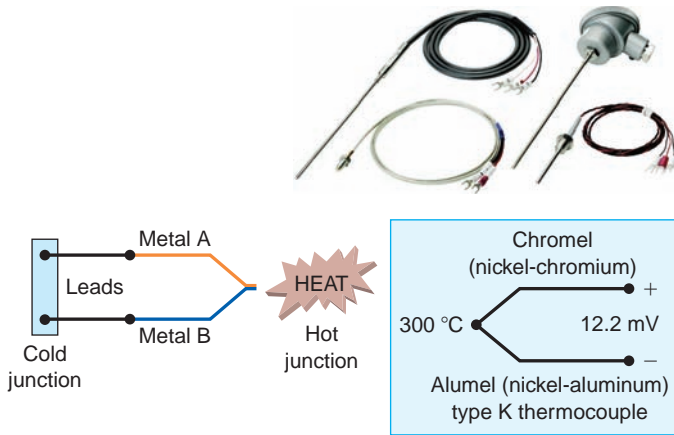

Figure 4-43 Thermocouple heat sensor.
A *thermocouple* (TC) is a sensor that measures temperature. The thermocouple is by far the most widely used temperature sensor for industrial control. Thermocouples operate on the principle that when two dissimilar metals are joined, a predictable DC voltage will be generated that relates to the difference in temperature between the hot junction and the cold junction (Figure 4-43). The hot junction (measuring junction) is the joined end of a